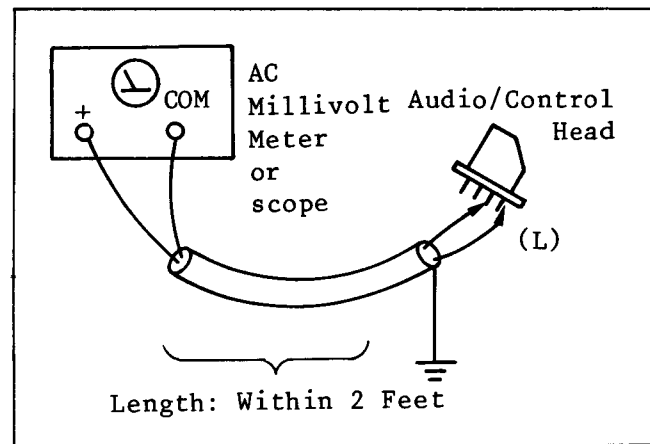

Fig. E12
3. Connect the AC Millivolt Meter or scope as shown in Fig. E12.